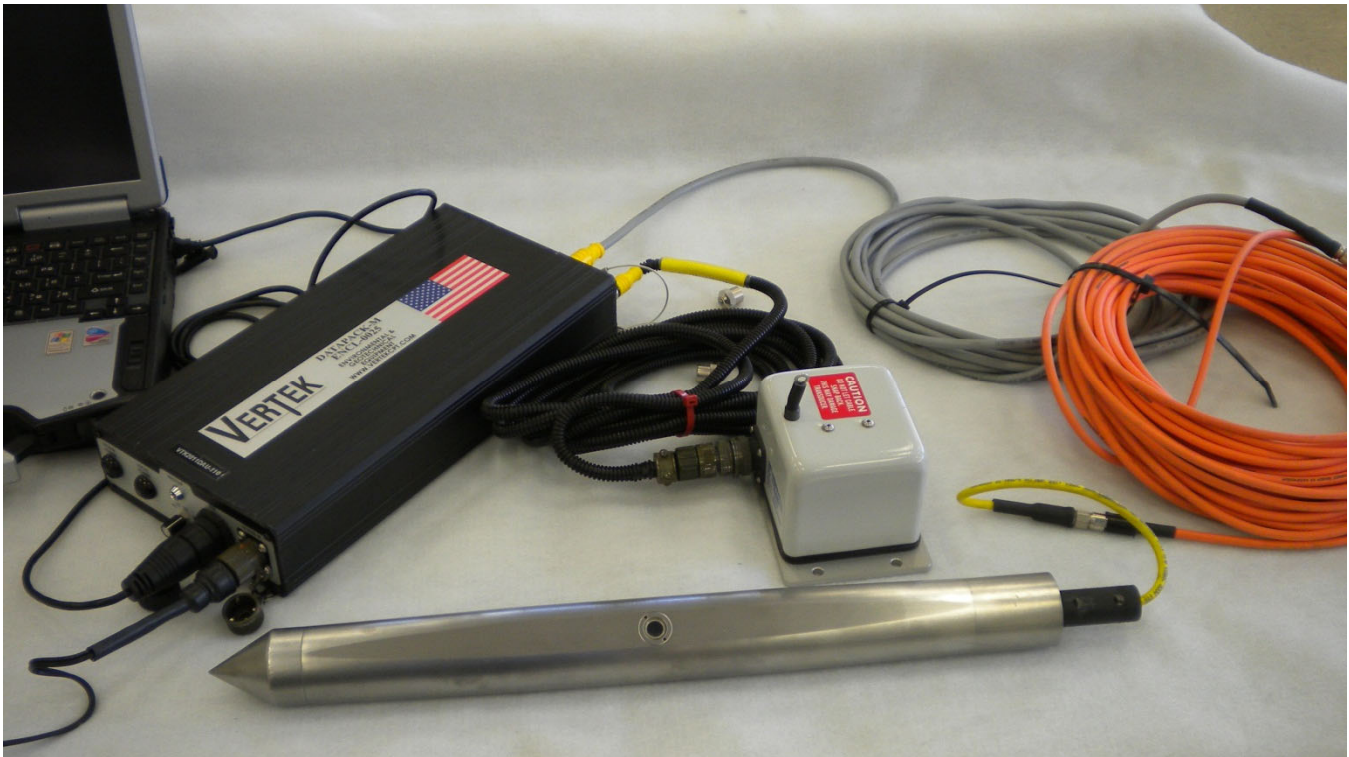

Figure 19 ENCL-0025 Modular DataPack used without Connector Hub
1. In this application the cone used plugs directly into the 'CONNECTOR HUB' receptacle on the ENCL-0025. Shown in figure 19 is a Specialty Module that connects to an orange cable which